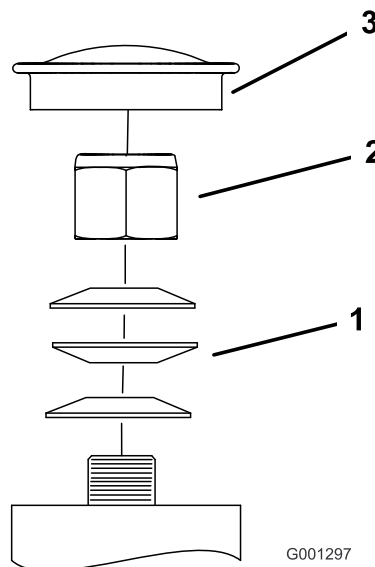

Figure 68
3. Remove the dust cap from caster and tighten the lock nut (Figure 68).
4. Tighten the locknut until the spring washers are flat, and then back off a 1/4 turn to properly set the preload on the bearings (Figure 68).
Important: Ensure that the spring washers are installed correctly as shown in Figure 68.
5. Install the dust cap (Figure 68).